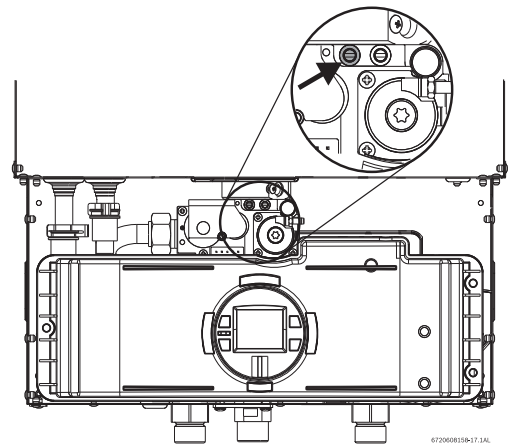

Fig. 43 Gas pressure test port (left tapping)
- ▶ Remove front cover and locate inlet gas pressure measuring point (see Fig. 43).